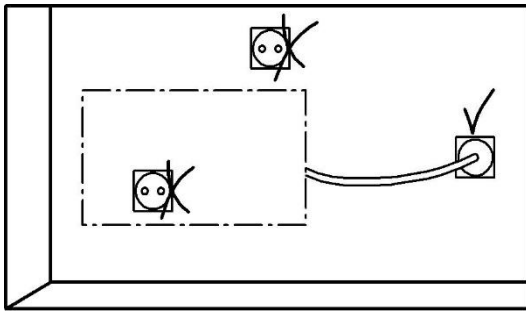
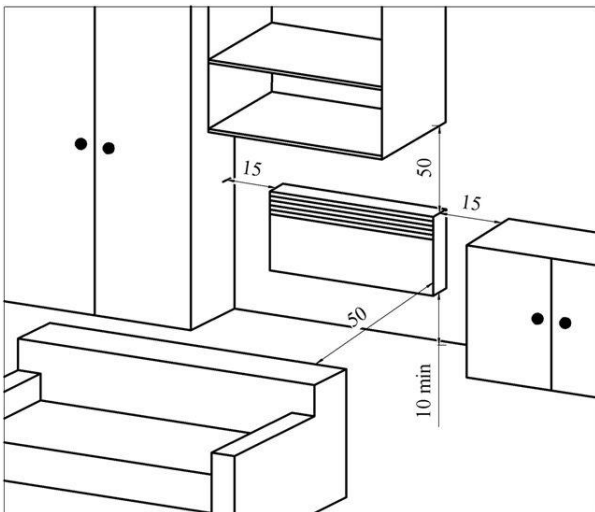

Figure 2
Figure 3
- It is necessary to hold minimum distances from the objects when mounting the convector as shown in Figure 2, Figure 3 (dimension in cm);